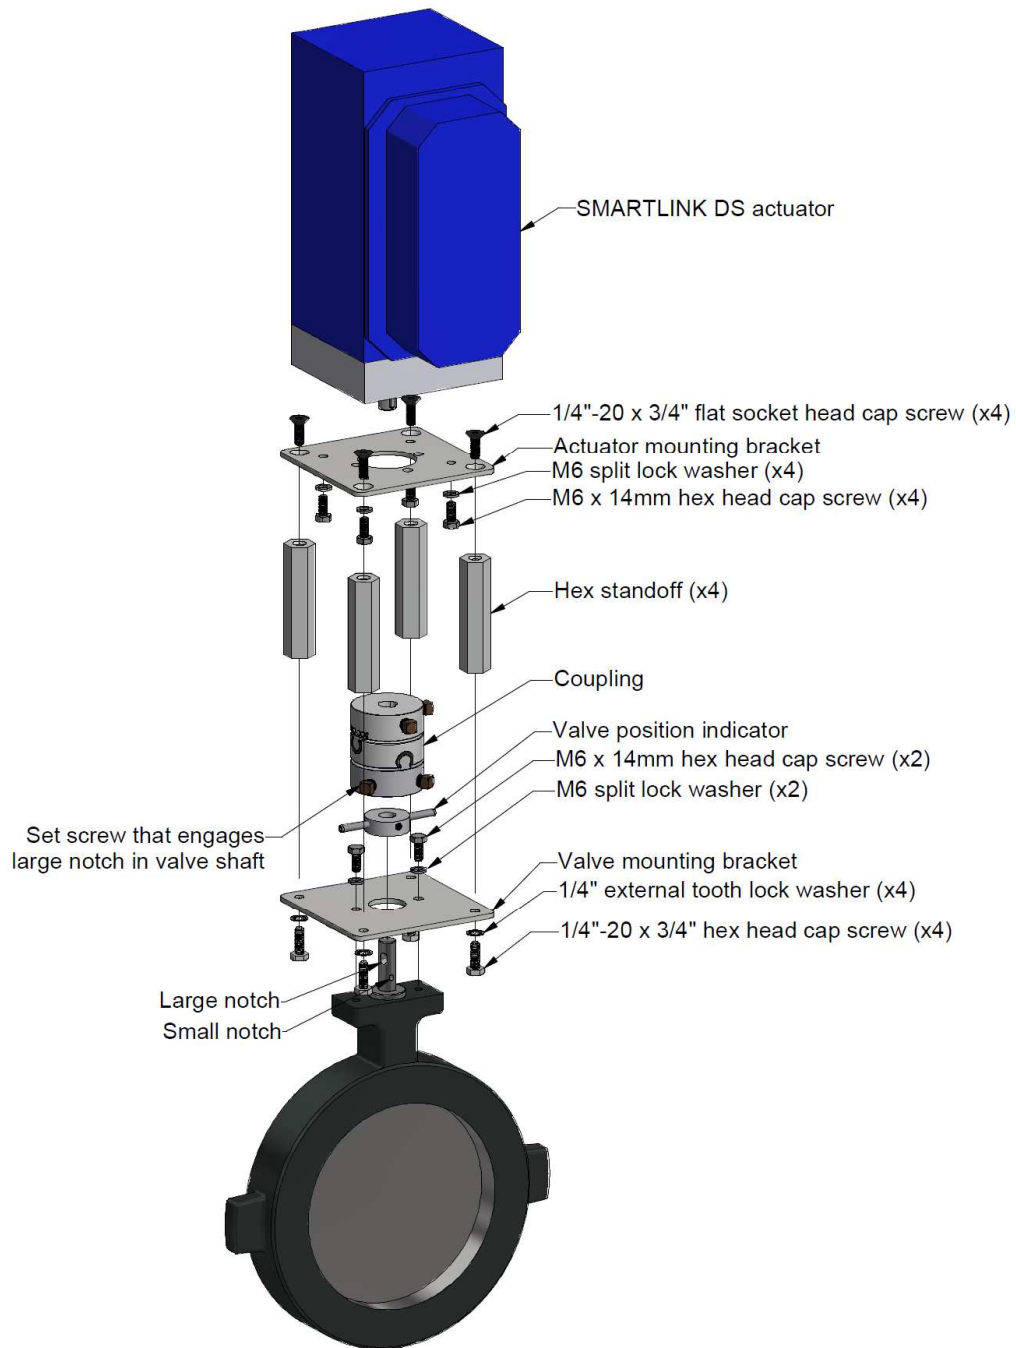

Figure 2: Exploded View of Assembly
1. Using the 10mm socket and ratchet wrench along with (2) M6 x 14mm hex head cap screws and (2) M6 split lock washers, assemble the valve mounting bracket to the VKF valve.
3. Slide the coupling assembly over the VKF valve shaft. Make sure the 12mm round hub labeled "CFM12RSA" is the hub that slides over the VKF valve shaft. Line up the set screw shown in Figure 2 with the large notch in the shaft. Using the 5/16" open-end wrench, tighten the two set screws against the VKF valve shaft.
4. Using the crescent wrench and the 7/16" open-end wrench along with the (4) 1/4"-20 x 3/4" hex head cap screws and the (4) 1/4" external tooth lock washers, secure the (4) hex standoffs to the valve mounting bracket.
5. Place the actuator mounting bracket on top of the four standoffs in the orientation shown in Figure 2. Place a small amount of Purple Loctite on the tip of the (4) 1/4"-20 x 3/4" flat socket head cap screws. Using the 5/32" hex key with the (4) 1/4"-20 x 3/4" flat socket head cap screws, secure the actuator mounting bracket to the standoffs.
7. Set the actuator on top of the actuator mounting bracket so that the ½” keyed shaft of the actuator slides into the coupling. Verify that the four mounting holes in the actuator line up with the four clearance holes in the actuator mounting bracket. Using the 10mm socket and ratchet wrench along with (4) M6 x 14mm hex head cap screws and (4) M6 split lock washers, fasten the actuator to the actuator mounting bracket.
9. The actuator needs to be programmed for clockwise (CW) rotation.